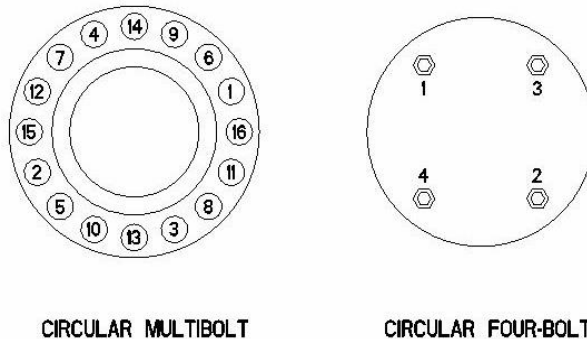

Figure 5: Bolt Torquing Pattern Examples
- End flange bolts should not be fastened in consecutive order. Each one tightened should be 180° opposite the previous one (see Figure 5). Two passes should be made. Once pass for half tightness and final pass for full tightness. ASME PCC-1 can provide guidelines for assembly of bolted flanges.